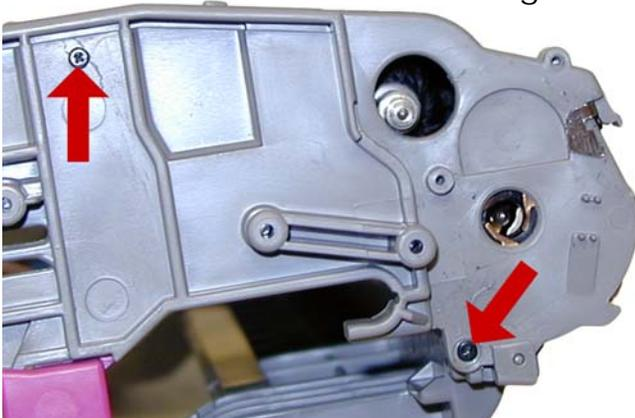

Figure 27
24) Remove the 2 small Phillips head screws from the frame as indicated. See **Figure 27**